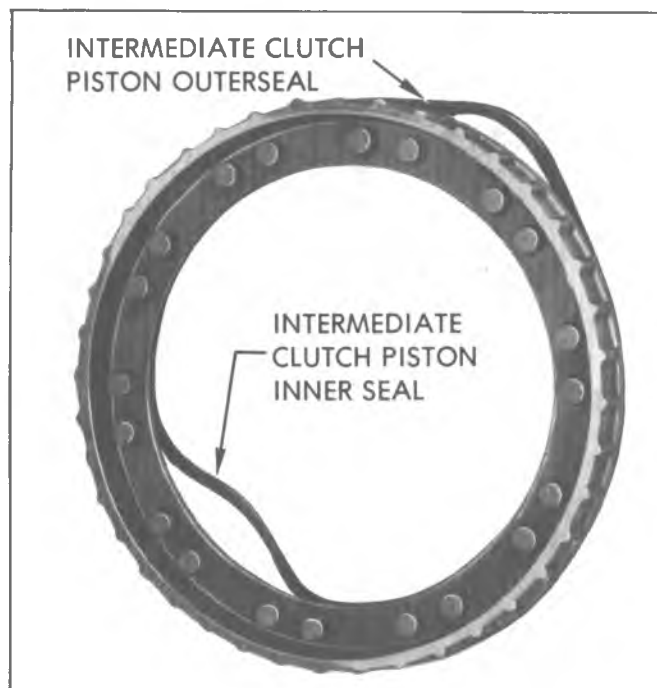

Fig. 7A-60B--Removing Intermediate Clutch Piston Inner and Outer Seal
2. Remove pump cover to body attaching bolts 5/16 x 18-1 1/2 (fig. 7A-58B).